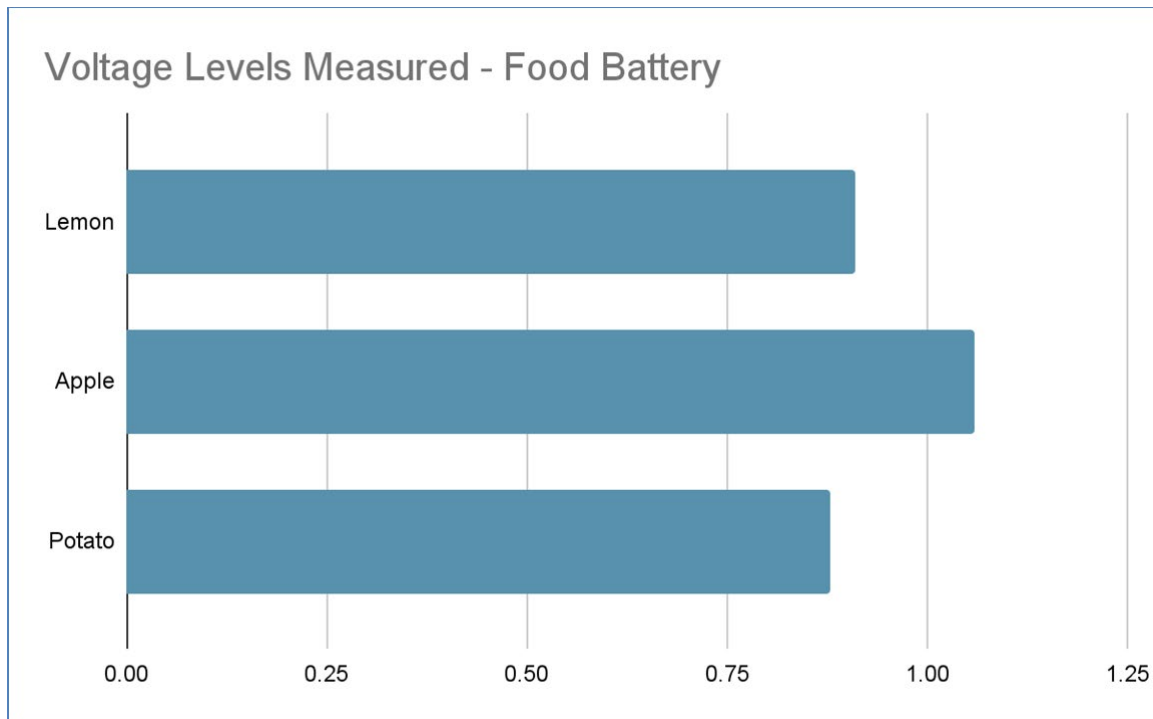

Figure 4-1 Open Circuit Voltage for food items
Figure 4.1 shows various open circuit voltages measured for the food items, with food items on the Y axis and Voltage (V) on the X axis.